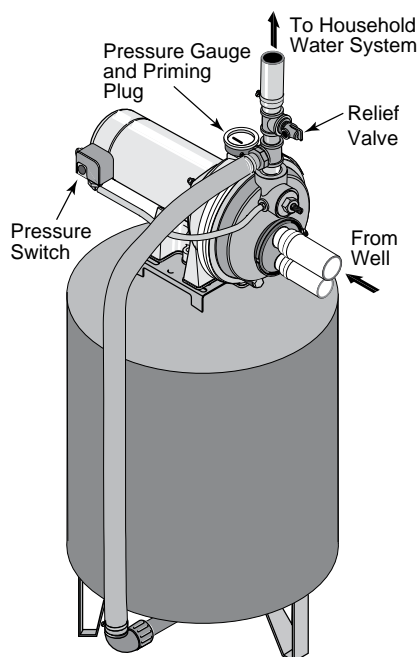

Figure 12: Pre-charged Tank Connections
Pre-Charge Tank Connection (Figure 12)
1. Install a close nipple and a tee in the pump discharge port (see Figure 12). The pipe size must be at least as large as the discharge port. Run a pipe or reinforced hose from one arm of the tee to the port on the pre-charged tank.